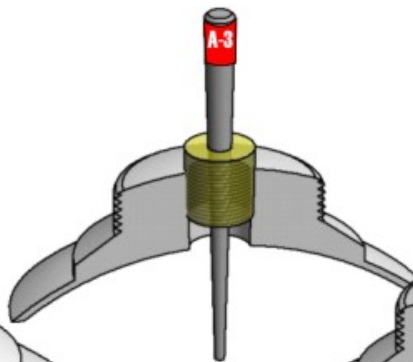

Figure 3.5
3.5 LEAK: VALVE BROKEN OFF (FIGURE 3.5)